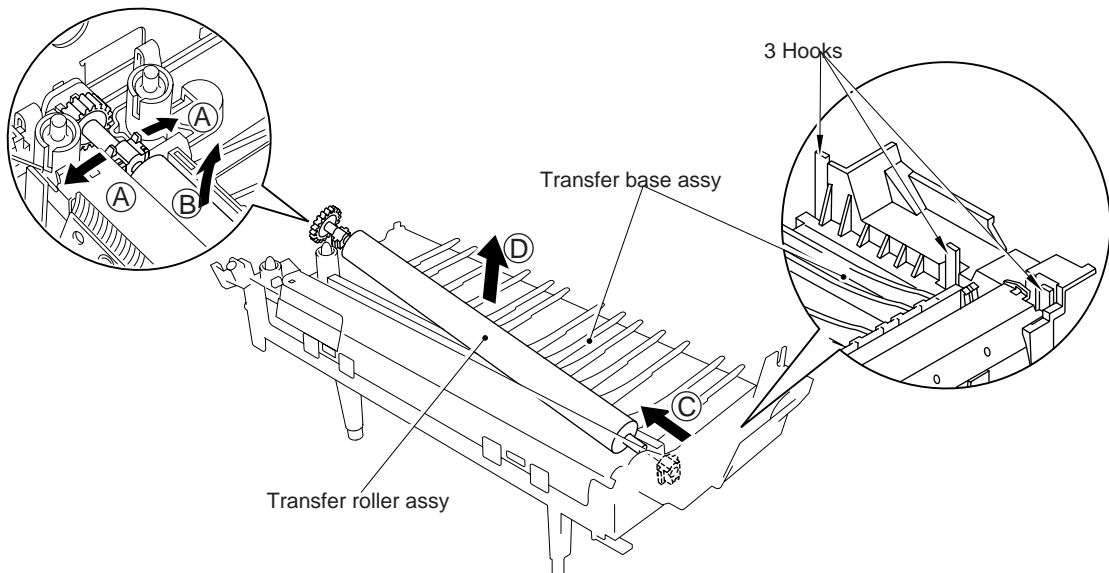

Figure 4.57
- (1) Loosen a screw.
- (2) Release the 3 right hooks, (see Figure 4.57) lift the right part of the unit (A) and slide it to the right (B) to take off the left part from the main chassis L. Remove the transfer unit from the body by lifting the former.